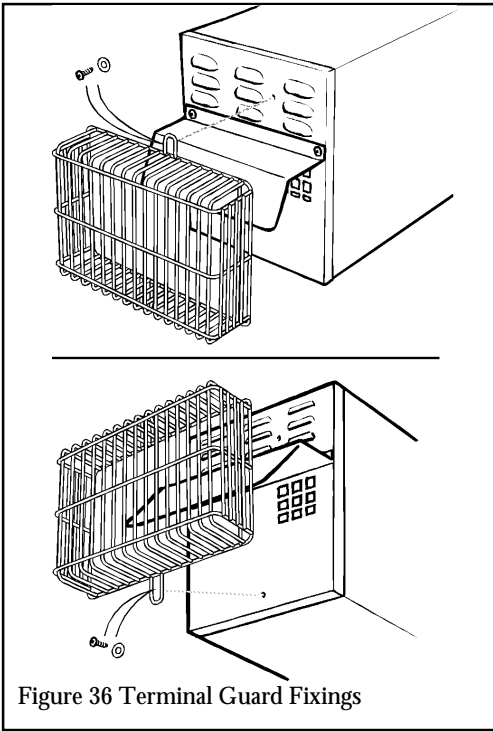

Figure 36 Terminal Guard Fixings
14.12.1 Remove the terminal guard by detaching two screws and washers (figure 36).